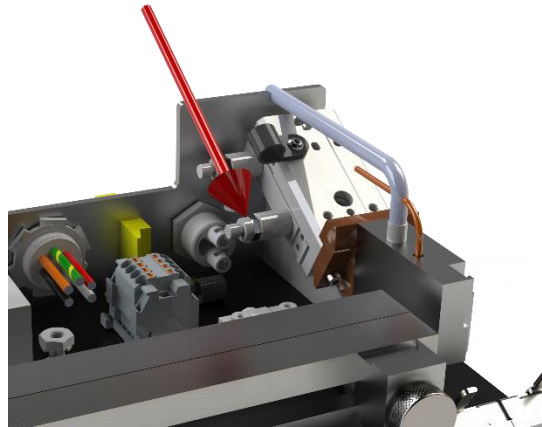

Figure 18. Flow control
- Controlled with flow control. Refer to Figure 18. Flow control.